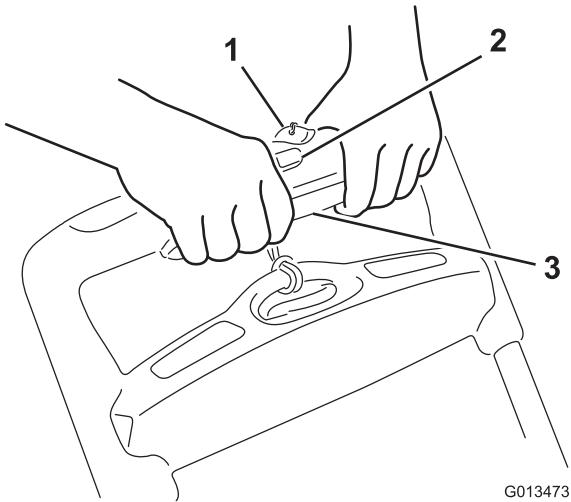

Figure 10
1. To start the motor, insert the key, press and hold the interlock button, and squeeze the power control bar (Figure 10).